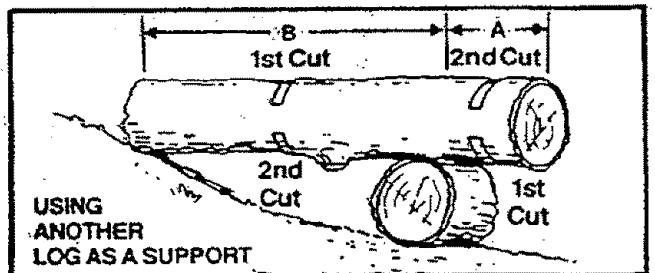

Figure 24
**4. BUCKING — USING ANOTHER LOG AS A SUPPORT (Figure 24):**